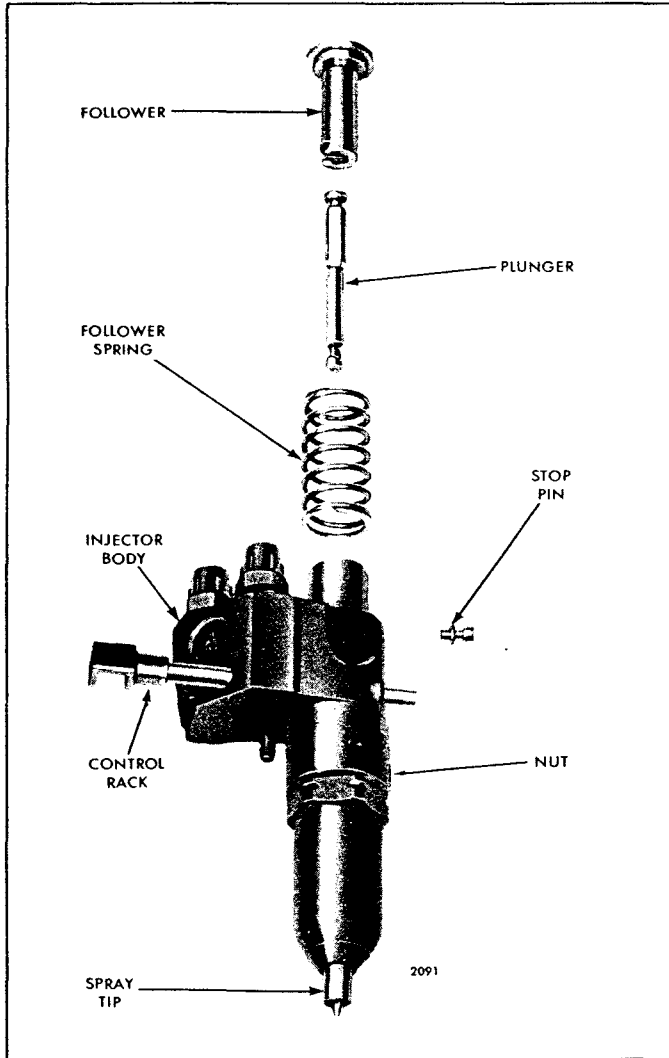

Fig. 33 – Injector Plunger, Follower and Relative Location of Parts
25. Refer to (Fig. 33) and slide the head of the plunger into the follower.